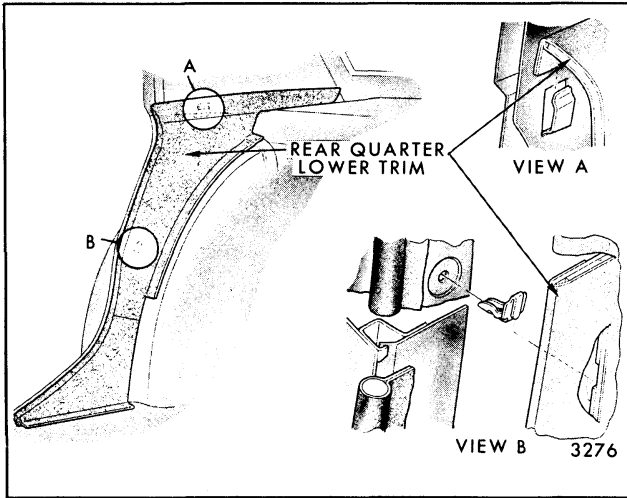

Fig. 6-10-Quarter Trim Assembly Attachment - "C"
3. On "C" styles, insert tool J-9886 or equivalent at each clip location and pry retaining clip from plastic retaining plugs (View "B", Fig. 6-10) and remove trim panel.